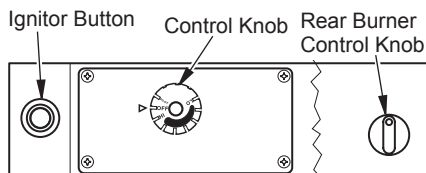

Figure 21 - Control Knob(s) and Ignitor Button Locations
- Turn control knob counterclockwise to the PILOT position. Press in control knob for five (5) seconds (see Figure 21).